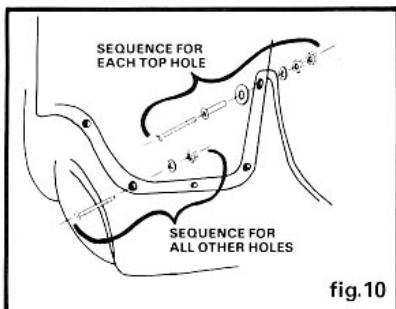

fig. 10
D. Component Assembly & Adjustment (Figure 10)
1. Position the windshield onto the fairing. Installation works in parallel progression from the center hole out to the top. Bolt sequence for each top hole is different than all other holes - see figure 10. **NOTE: IT WILL BE NECESSARY TO SLIGHTLY BEND THE WINDSHIELD TO INSTALL THE BOLTS.**